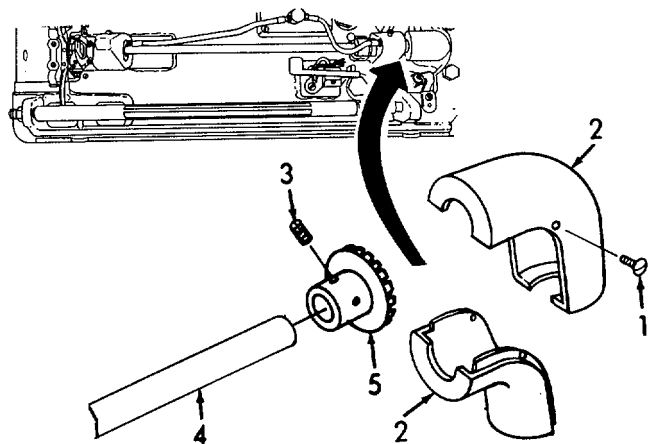

Figure 6-58. Bobbin Drive Gear, Removal.
- (5) Refer to Figure 6-58. Remove the screw (1) and remove both halves of the gear case (2).
- (6) Loosen the two setscrews (3).
- (7) Slide the shaft (4) out of the pinion gear (5) and remove the pinion gear.